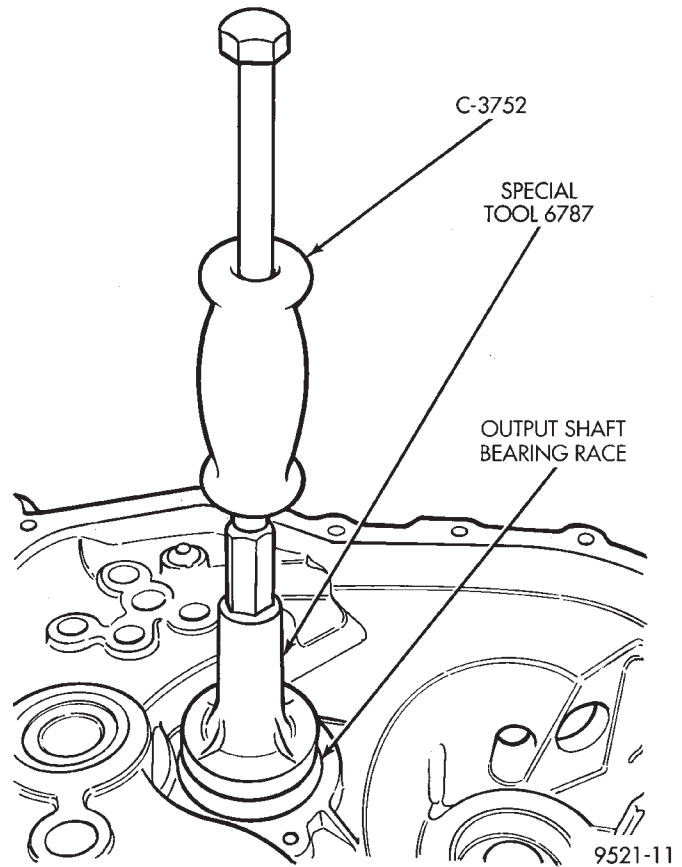

Fig. 134 Output Bearing Race Removal
(3) Install tool #6787 and slide hammer (Fig. 134). Tighten tool to output bearing race.
(4) Using slide hammer, remove output bearing race.